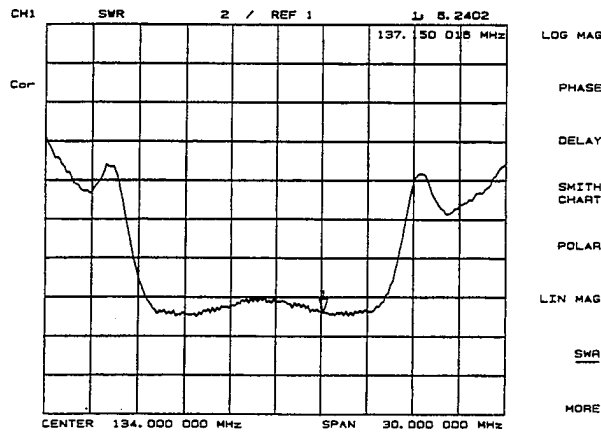

Figure 7-15. Typical SWR Display
**[SWR]** (SWR) reformats a reflection measurement into its equivalent SWR (standing wave ratio) value (Figure 7-15). SWR is equivalent to  $(1 + \rho)/(1 - \rho)$ , where  $\rho$  is the reflection coefficient. Note that the results are valid only for reflection measurements.